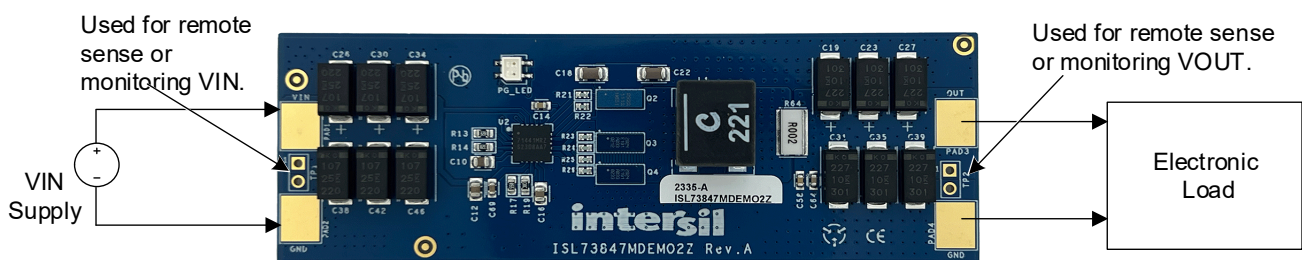

Figure 2. ISL73847MDEMO2Z Board Setup
1. Apply a 4.5V to 15V voltage to V_{IN} connectors, as shown in Figure 2. To use 4w sense lines from a power supply or a voltmeter to monitor the input voltage, solder a jumper to TP1.
2. If required, a resistor or electronic load can be connected to the V_{OUT} connectors, as shown in Figure 2. To use 4w sense lines from an electronic load, solder a jumper to TP2.